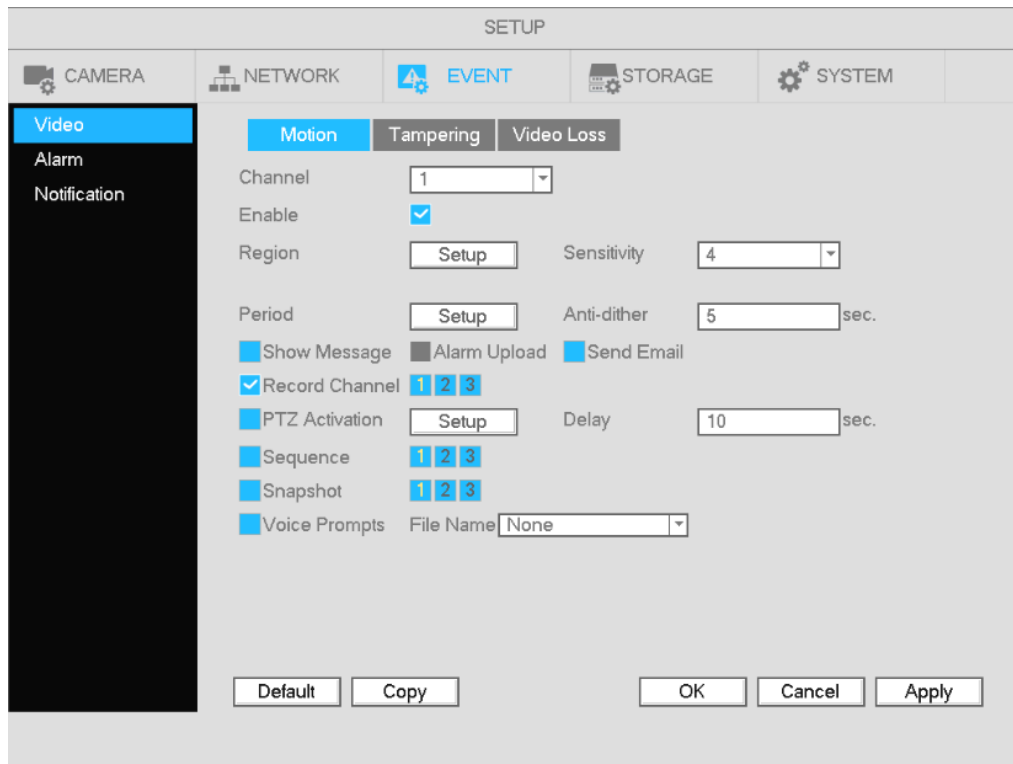

Figure 4-4
- Go to Main Menu->Setup->Event->Video->Motion. See Figure 4-4.